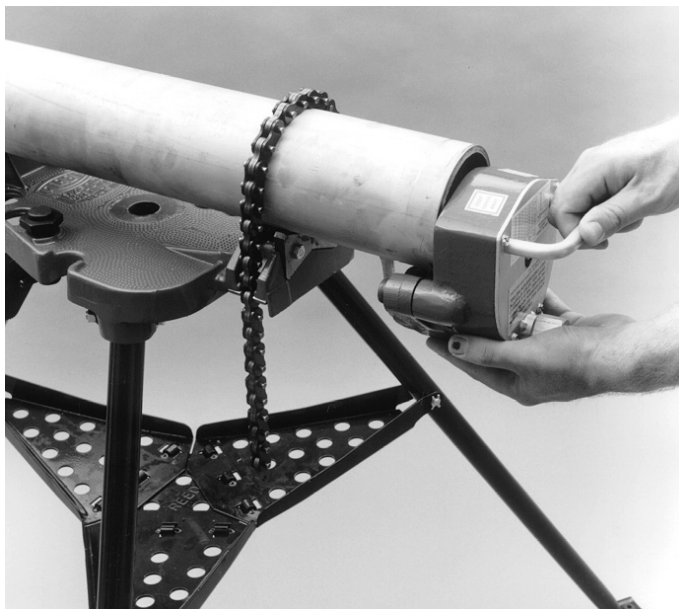

Fig. 2. Tool Insertion
2. With the hex drive nut down, insert the nose of the body into the pipe end. Push the tool onto the pipe until the pipe end stops rest against the pipe end. (See Fig 2.)